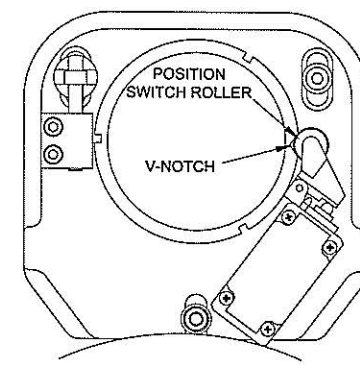

Figure 3
- If necessary, loosen the interlock ring set screws and rotate the ring so that the V-notch aligns with the position switch roller when the assembly is in the treat position (**Figure 3**). Retighten the set screws.
Extensive Cleaning: If your electrode assembly(s) shows signs of air port blockage, excessive dirt buildup, HV arcing, or carbon tracking you will need to perform a more extensive cleaning of the assembly(s). Use a bore style stiff bristled brush to clear the exhaust / cooling air ports. Use a standard stiff bristled brush for any hard to remove contaminants on the exhaust tube surface, Figure 3.